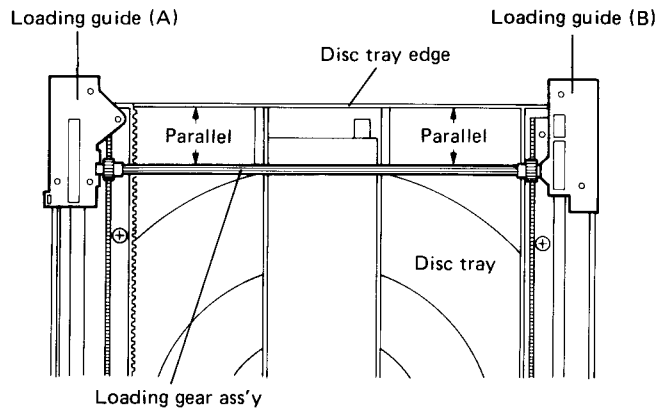

Fig. 4-2
11. Install the loading gear ass'y and loading guide (B) to the disc tray. At this time, set the shaft of the loading gear ass'y into parallelism with the tray end. (Fig. 4-2) Draw care not to let the loading guide (B) off, which is not fixed to the disc tray.